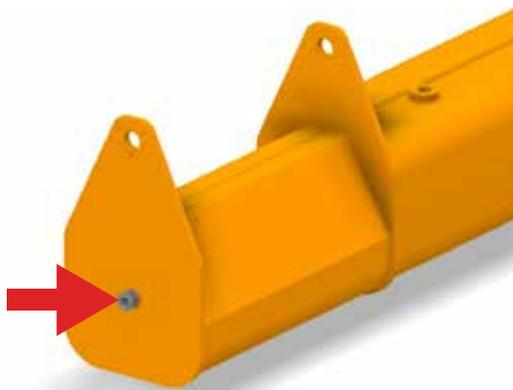

fig.12
- ▶ The metalwork parts of the jib crane (column and arm) are generally supplied with packaging, hooking points are present on the columns to make it easier to move them during installation operations (fig. 12).